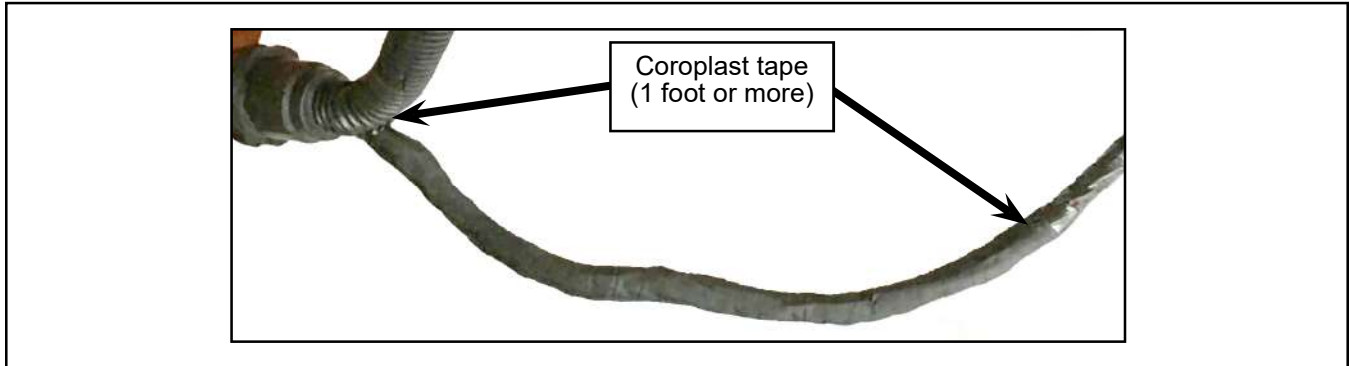

Figure 5 - Coroplast Tape Applied
- 1.9. Apply Coroplast tape (N74787) for 1 foot starting from the harness connector and over any further length of exposed wires where PVC electrical tape was removed at step 1.7 (see Figure 5).